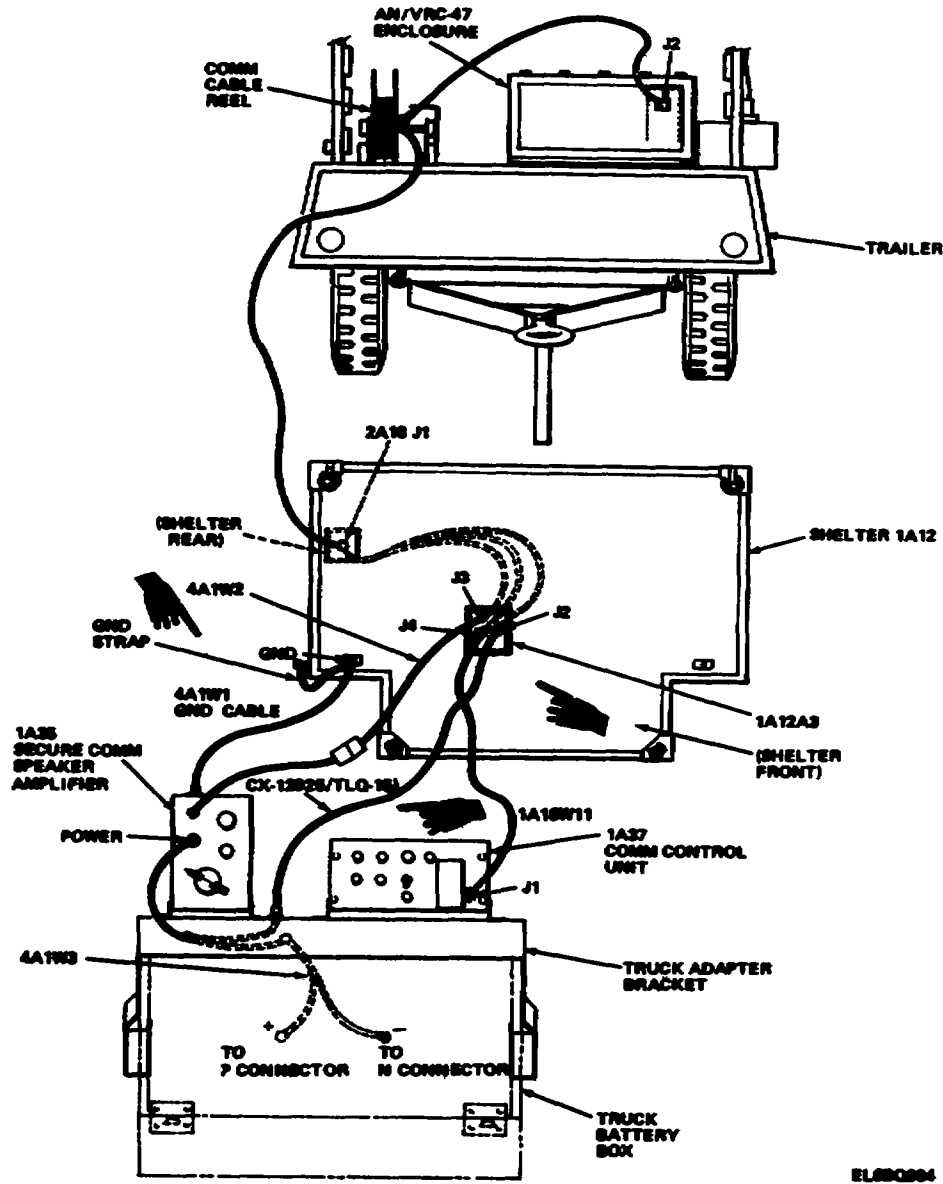

Figure 2-20.2. Vhf mobile communications interconnection, M715 vehicle.
speaker amplifier to shelter 1A12 ground by attaching cable end to shelter radial connections on front and side of shelter; use ground strap to make side connections (fig. 2-20.2). Secure ground connections with thumbscrews.
- o. Lift canvas far enough to permit connection of cable 1A18W11 from comm control unit J1 to 1A12A3J4 on shelter (fig. 2-20.2).
- p. Connect cable from secure comm speaker amplifier to cable 4A1W2; connect 4A1W2 to 1A12A3J3 on shelter (fig. 2-20.2).